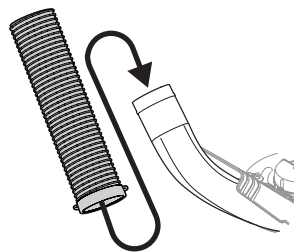

Figure 28
2. Lift by the handles at the bottom of the hose. Slide the hose over the boot mounted on the cutting deck, as shown in Figure 28.